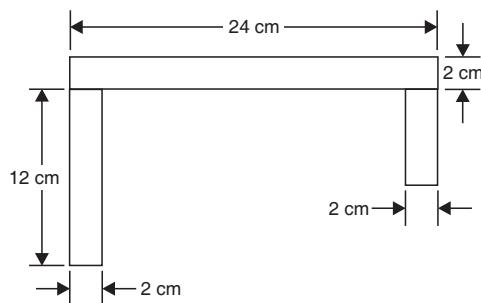

Fig. 8.35
4. Calculate the second moment of area of the built up section shown in Fig. 8.35 about XX and YY, XX and YY are the axes passing through the centroid of the section. [Ans.  $I_{xx} = 1152.35 \text{ cm}^4$ ,  $I_{yy} = 6463 \text{ cm}^4$ ]